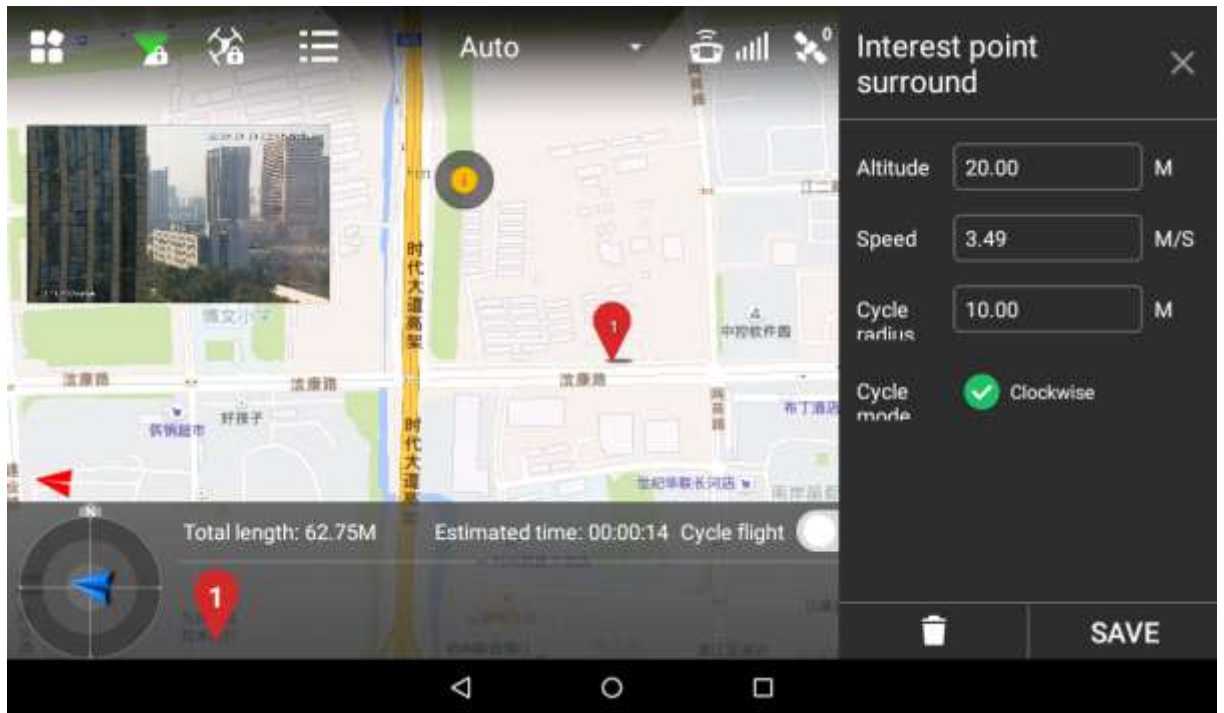

Figure 0-15
Step 3 Click the interest point, and the point icon will become red. Settings interface of interest point will be displayed on the right of main interface, as shown in Figure 0-15.